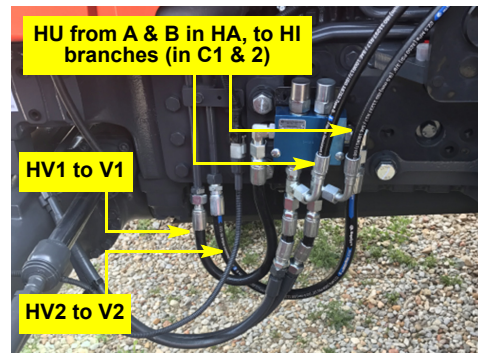

Figure 7d: CBV installed - connections 2
- f. Connect hoses **HV1** and **HV2** between the steel steering lines and the elbow fittings **HG** in the V ports of the CBV (HV1 to V1 - Figure 7d).
- g. Connect the steering hoses **HU** to/from the A and B ports of **HA** to the branches of the run tees **HI** in the C ports of the CBV (Figure 7d).